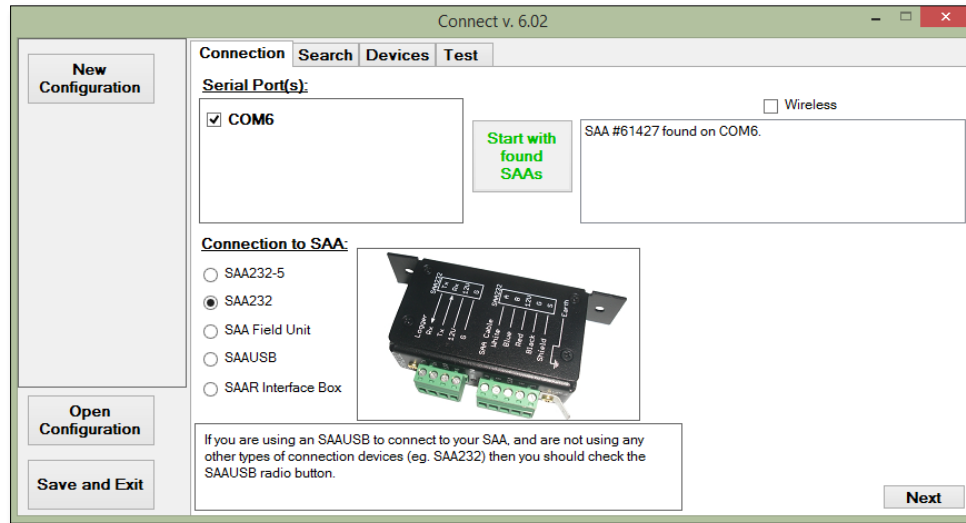

Figure 6.8: SAARecorder 'Connection' window with the SAA232 selected.
5. Click the 'SAA232' choice under the 'Connection' tab, the window should appear as it is in **Figure 6.8**. Click the Serial Port that the SAA(s) is/are connected to.